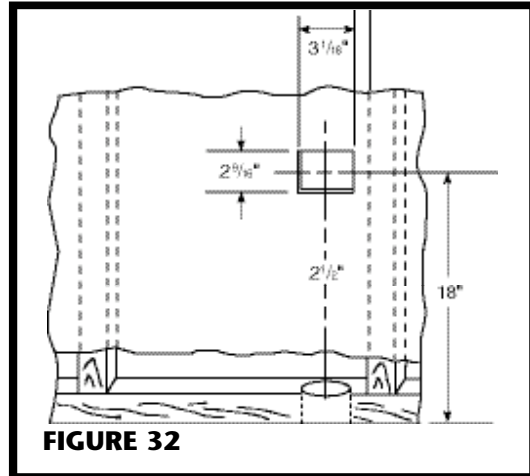

FIGURE 32
1. If area is clear, cut an inlet opening in the wall approximately 18" above the floor. Make sure wall opening and 2 1/2" tube hole line up (Figure 32).